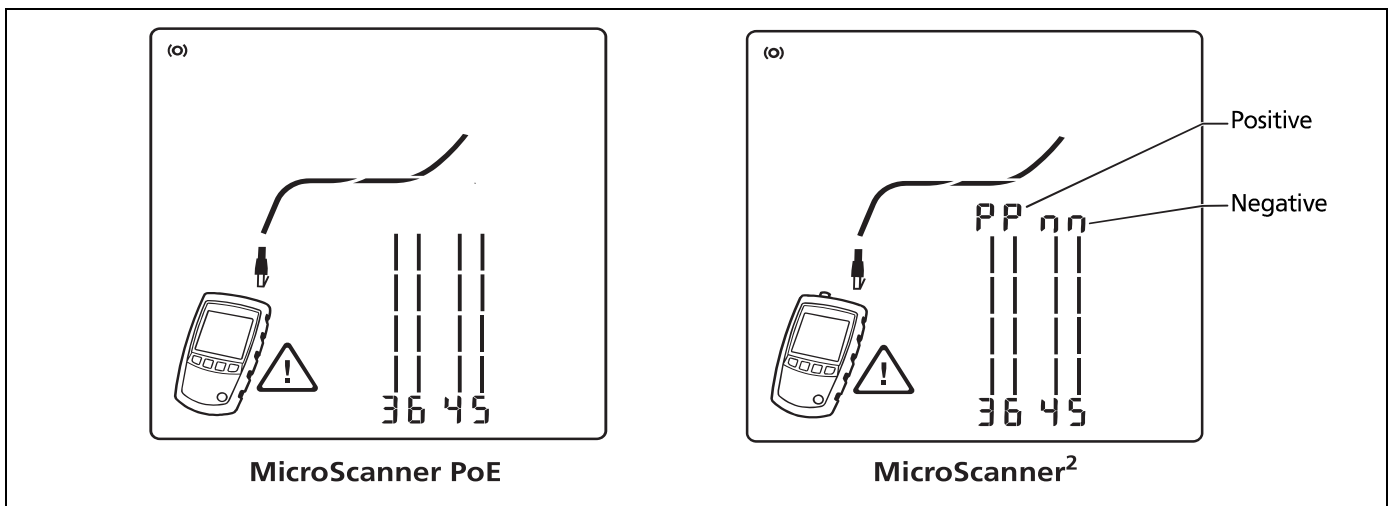

Figure 1. High Voltage Display Examples
- The tester is not intended to be connected to active telephone inputs, systems, or equipment, including ISDN devices. Exposure to the voltages applied by these interfaces may damage the tester and create a potential shock hazard. The tester shows a warning symbol (⚠) when it detects high voltage. Figures 1 and 13 show